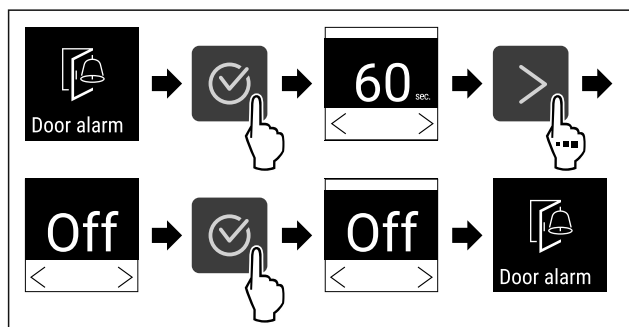

Fig. 142
- ▶ Carry out steps (see Fig. 142).